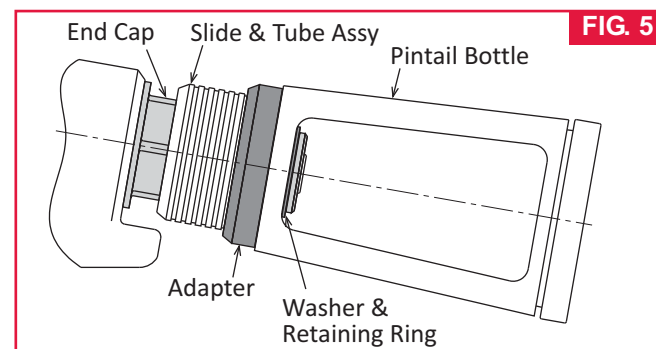

FIG. 5
1. By reaching through the window of Pintail Bottle remove Retaining Ring and Washer (Fig. 5).
4. Remove Adapter and Slide & Tube Assembly (Fig. 5).
5. Position Adapter and pintail bottle on End Cap. (Fig. 5 & 16).